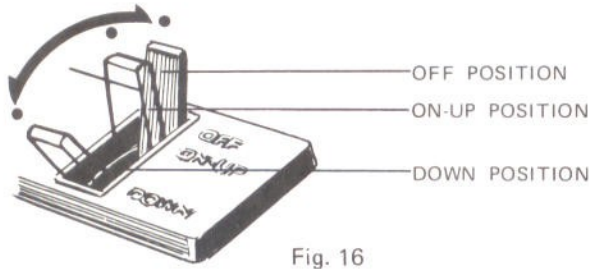

Fig. 16
- DOWN: Tonearm floats down gently upon the record. Motor is operating (Fig. 16).